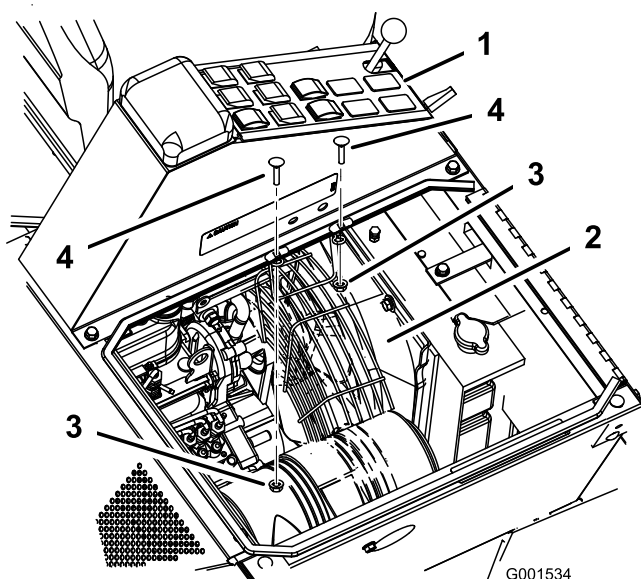

Figure 1
2. Remove the two bolts and nuts from the center console (Figure 1).
3. Position the guard under the center console and above the fan (Figure 1).
4. Install the fan guard to the center console with four carriage bolts (5/16 x 3/4 inch) and four flange nuts (5/16 inch) (Figure 1).